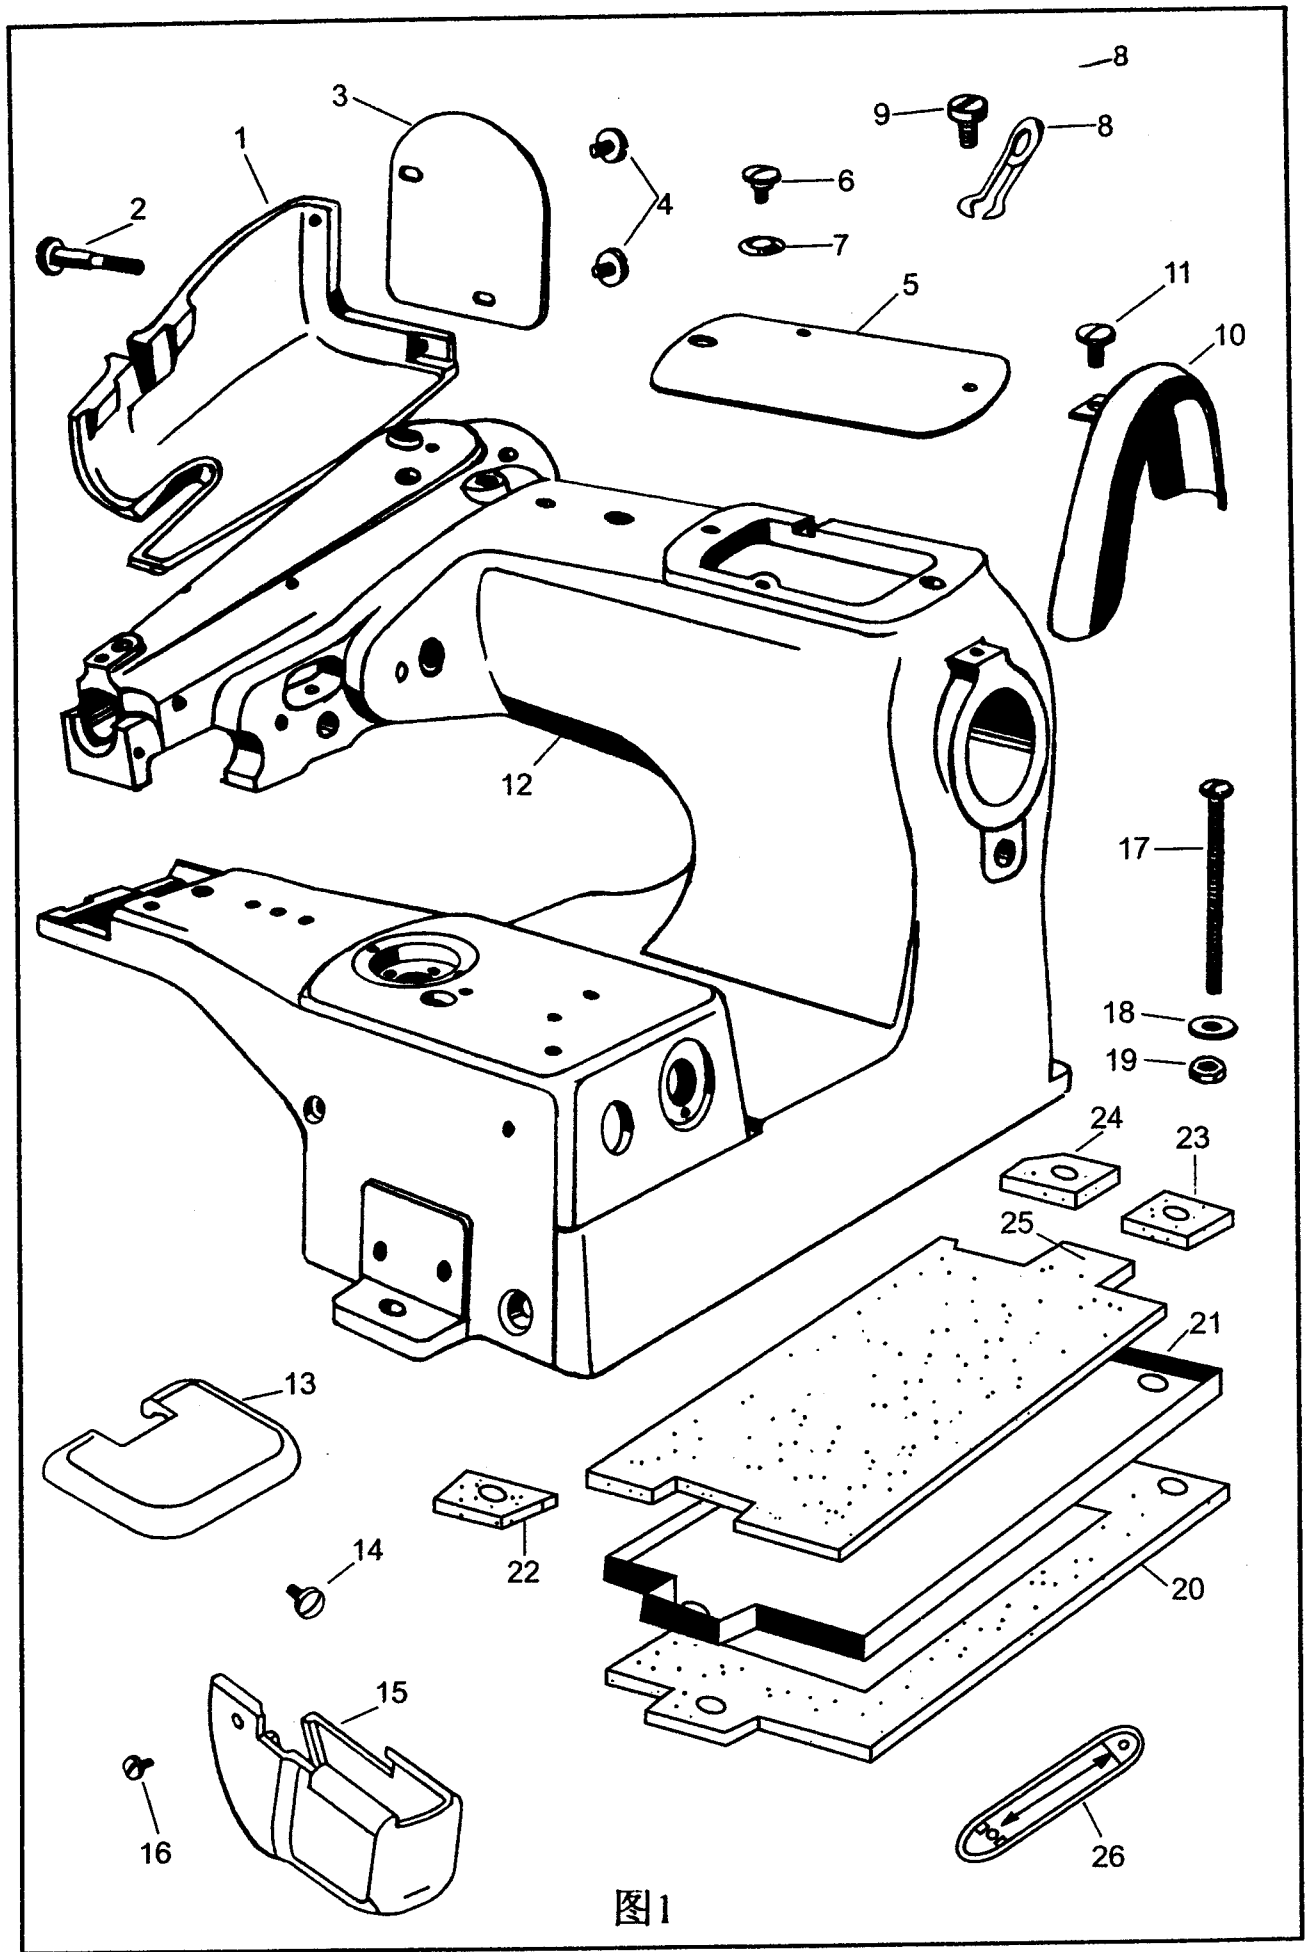

图1
Notice: The distance between small pulley and workplate should be about 60mm. (Fig. 1).
3. Lining cloth is installed on the big bulley. (Fig. 1) Clamp the front part of the lining cloth with the clamp. Then above the main material. (Fig. 6)